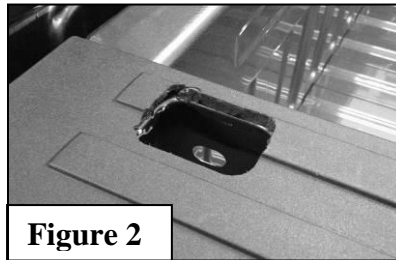

Figure 2
5. Guide the router slowly and gently in a counter-clockwise motion until the pocket is exposed (Figure 2). Repeat Step 5 if slag is present.